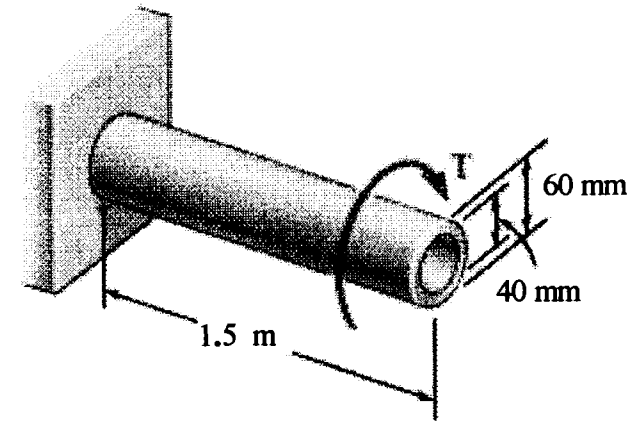

Fig 12
- b) A hollow cylindrical steel shaft is 1.5 m long and has inner and outer diameters respectively equal to 40 and 60 mm (Fig. 12). (a) What is the largest torque that can be applied to the shaft if the shearing stress is not to exceed 120 MPa? (b) What is the corresponding minimum value of the shearing stress in the shaft?